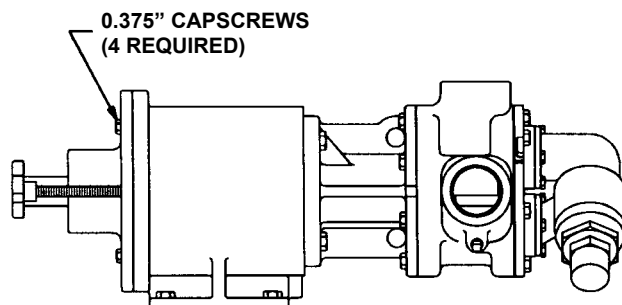

FIGURE 19
5. Install the (4) 0.375" capscrews. Turn the output shaft over by hand to make sure the pump rotates freely. See Figure 19).